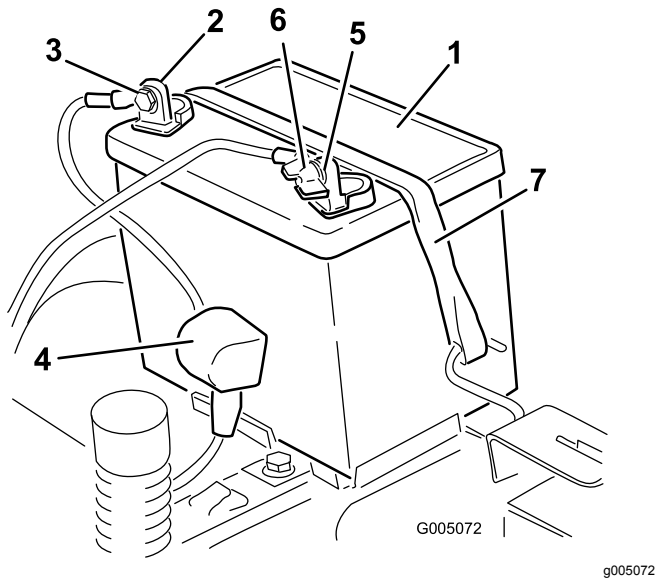

Figure 37
4. Disconnect the negative (black) ground cable from the battery post (Figure 37).
6. Disconnect the positive (red) cable from the battery post (Figure 37).
7. Remove the battery hold-down (Figure 37), and lift the battery from the battery tray.
1. Position the battery in the tray (Figure 37).
5. Secure the battery with the hold-down (Figure 37).